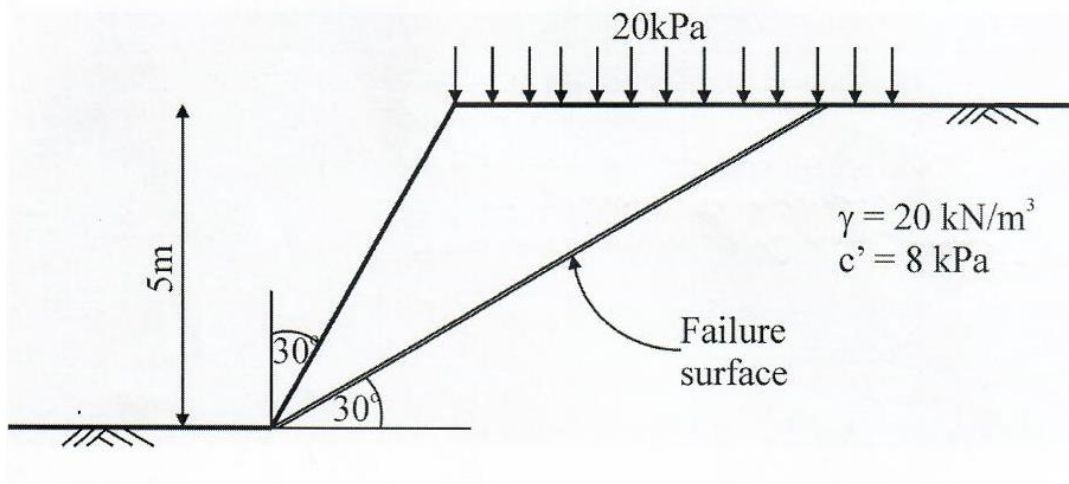

Figure Q4
4. For the design of roadworks it is necessary to investigate the stability of the side slopes of an excavation. A site investigation indicates that the soil is homogeneous to a considerable depth, with bulk unit weight γ of 20 kN/m^3 and cohesion c' of 8 kPa . This investigation did not provide a reliable value of the angle of shearing resistance ϕ' . However, during earlier works at the same site failure of an excavation was recorded, the geometry of which is presented in Figure Q4, together with the observed planar failure surface.
Using the Limit Equilibrium analysis method and the soil properties given above, back analyse the failure in Figure Q4 to determine the value of shearing resistance ϕ' . Assume that the soil behaves in a drained manner, with a Mohr-Coulomb failure criterion. A surcharge of 20 kPa , representing contractor's plant, should be assumed to act on the ground surface at the crest of the slope, as indicated in Figure Q4. Sketch the forces acting on the failing soil block.